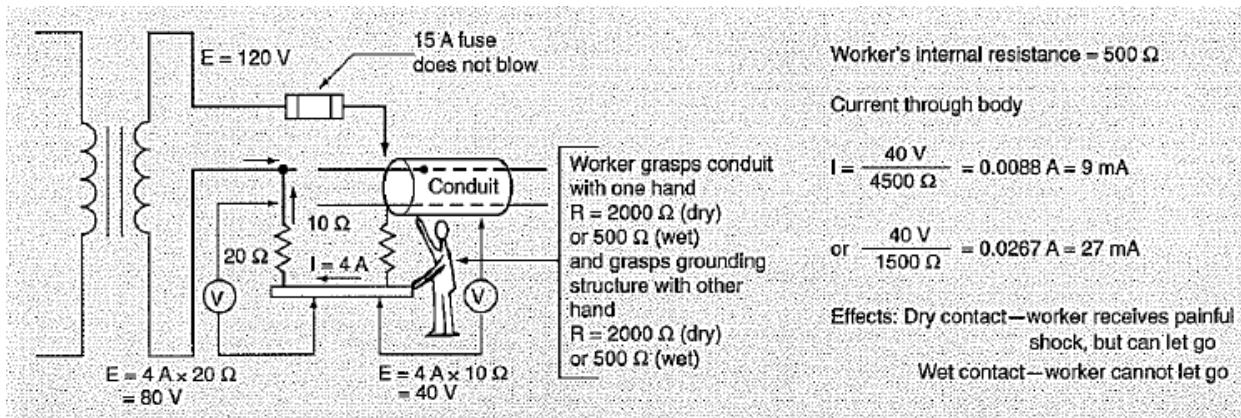

Figure 4.4: Conduit Grounded Through Resistive Path
- 4-14 An improvement in the grounding is shown in Figure 4.4. The conduit is connected to the ground by a path having a resistance of 10Ω . How much protection does this path offer?
- 4-15 If the insulation fails and the 120 V conductor makes contact with the external conduit, a potential difference of 120 V exists across the path from the conduit to the opposite side of the transformer. This path has a total resistance of 30Ω . Therefore, the current in the path is 4 A as shown by the calculation included in Figure 4.4. As in the first example, this current is not High enough to blow the 15 A fuse.
4-18 The potential difference across the worker's body is limited to 40 V, because of the parallel $10\ \Omega$ path from the conduit to the grounding structure. Therefore, the current through the worker's body is only about 9 mA, as shown by the calculations in Figure 4-4. You can see from Table 4-2 that this current will cause a painful shock, but the worker will be able to let go of the metal structures and break the circuit. Even if the contact is wet, the current will be only about 27 mA (40 V divided by $1500\ \Omega$). This current will prevent the worker from releasing his grip, and breathing may be impossible.